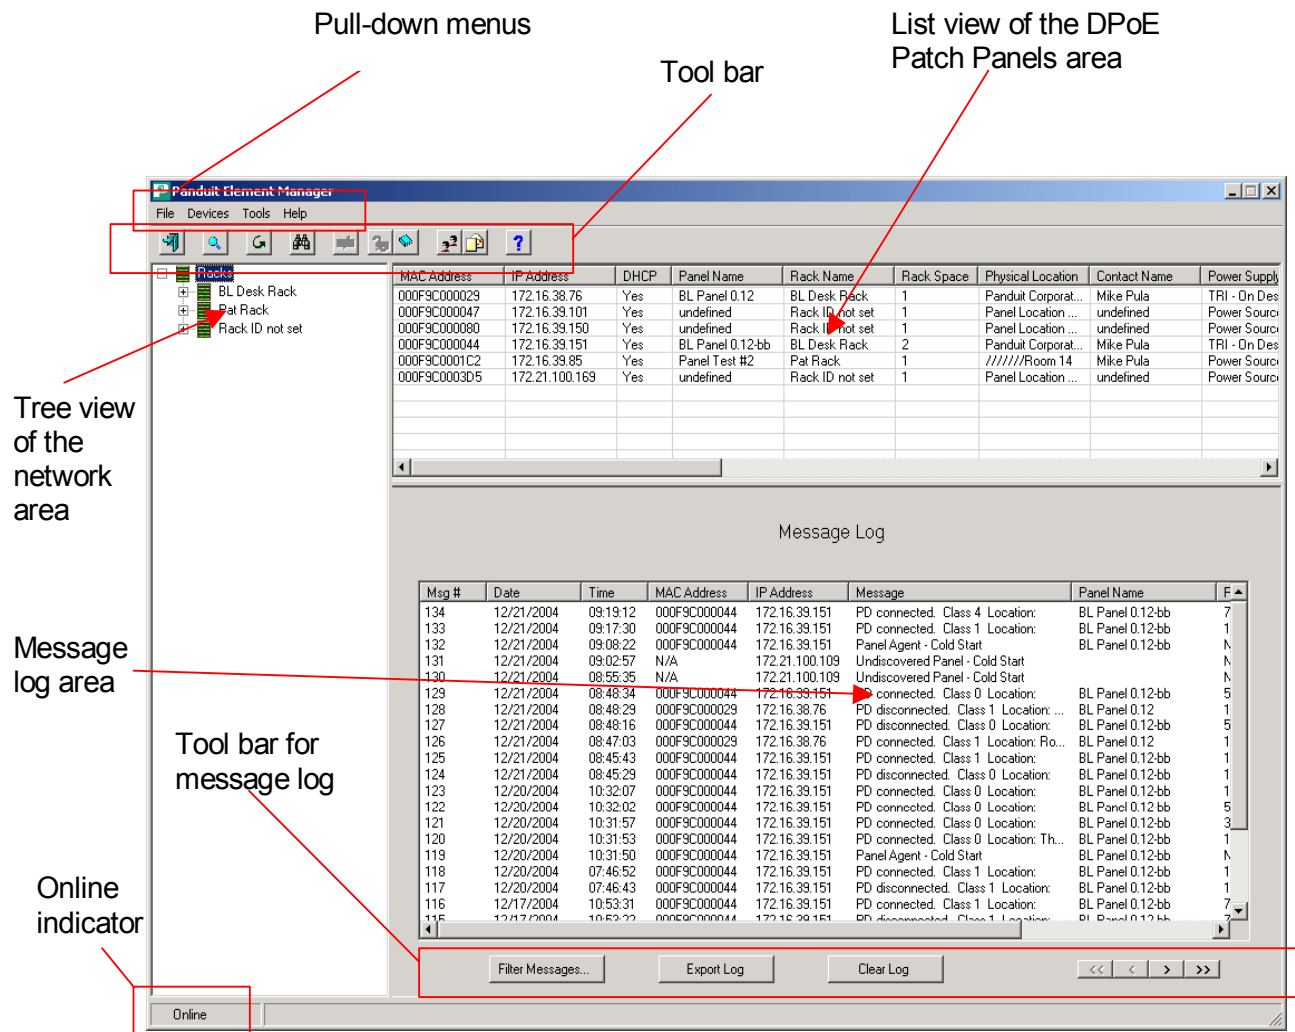

Figure 3: System-Level Opening Screen
8. Once all of the information is entered, click the **Save** button and this information will be saved to the panel and the graphic for the rack will be shown in the Element Manager Tree View of the Network area along with a graphical representation of the panel with the proper name. (See page 23, *Figure 3: System-Level Opening Screen*, for more information.)